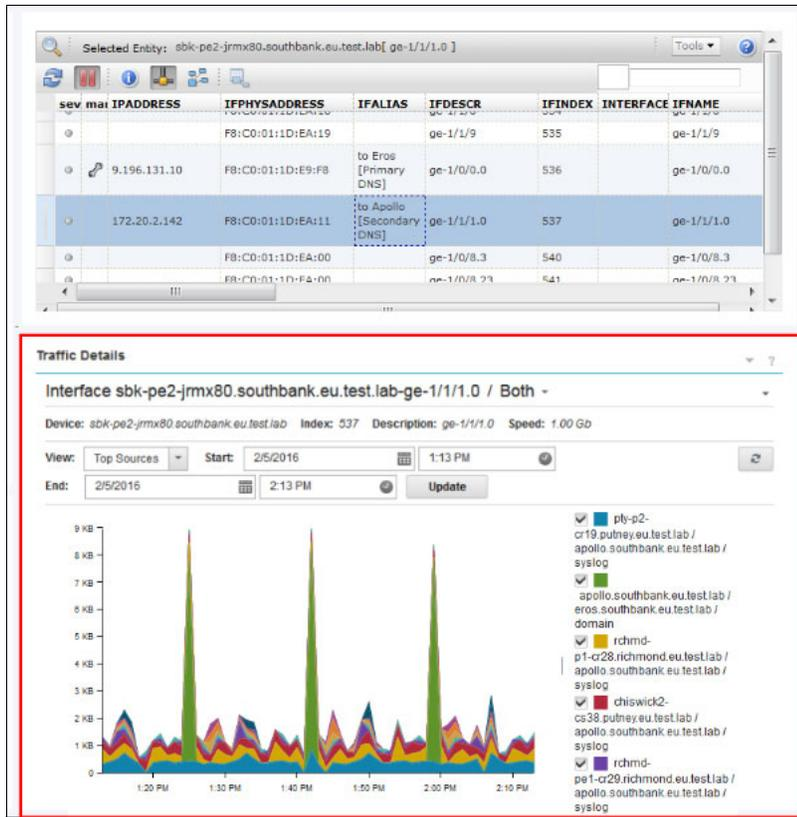

Figure 2-34 Port connecting the DNS server is identified by using the Structure Browser
- Brock identifies the specific switch port that the secondary DNS server is connected to and views the traffic for that port as provided by Netcool Performance Insight (NPI), as shown in Figure 2-34.